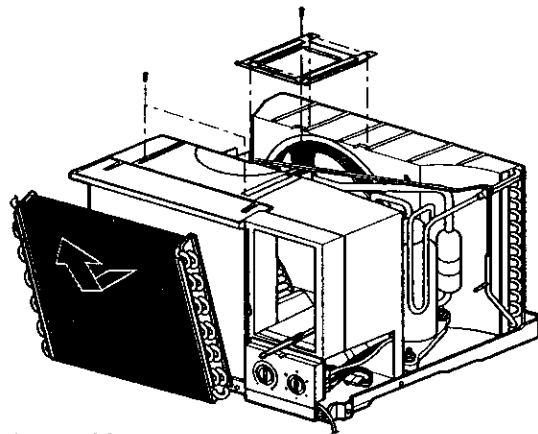

Figure 44
7. Move the evaporator high side forward and pulling it upside slightly. (See Figure 44)